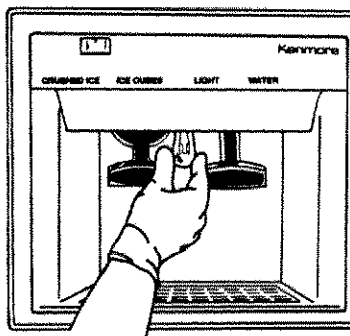

Figure 43
- b. Wear protective gloves to remove defective bulb and replace with functioning bulb. See Figure 43.